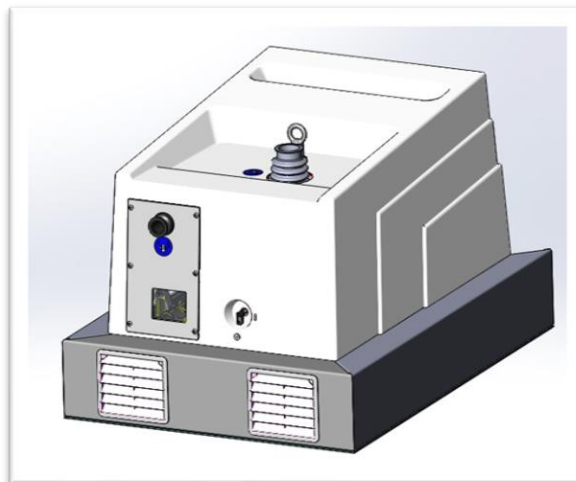

Figure 3. MS120 pump with Noise Abatement Panel, Long and Front
- 3 Install the Noise Abatement Panel, Front (with the two grids) under the pump, opposite to the pump side with the grids, as shown in figure 3: